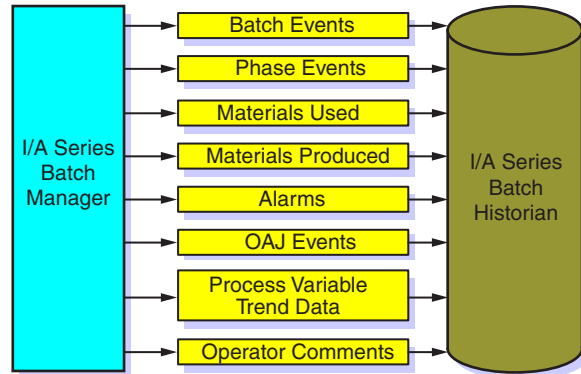

Figure 5. Batch History (EBR)
- EBR events are the event data the Batch Manager captures and logs to the Batch Historian when batches are executing (refer to Figure 5). All these events are stored with time, date, and batch ID for easy retrieval.